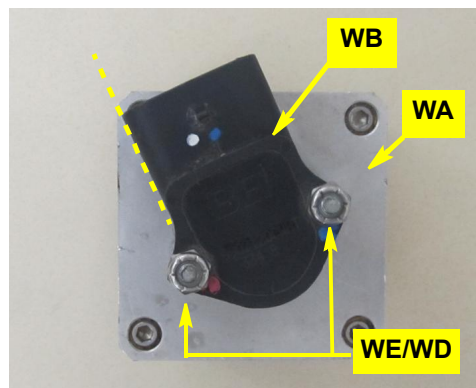

Figure 1a: Prepared WAS housing/connector
- a. Using hardware **WE** (nuts) and **WD** (screws - not visible), attach the WAS wire connector **WB** to the WAS housing **WA**. Install the bolts up through the bottom of the housing. Align the left edge of **WB** with the center of a corner of **WA** (Figure 1a).